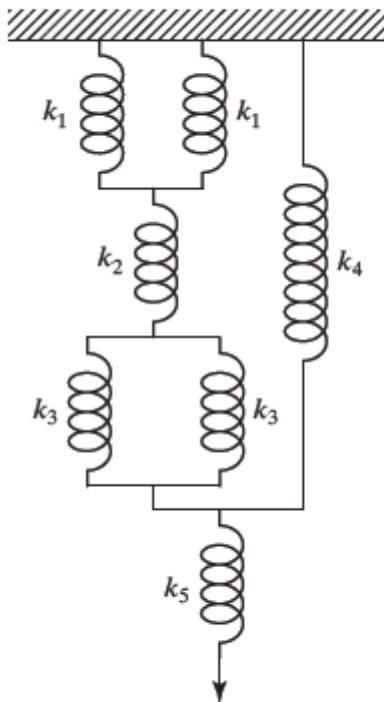

FIGURE 1.67 Springs in series-parallel.
1.7 Determine the equivalent spring constant of the system shown in Fig. 1.67.